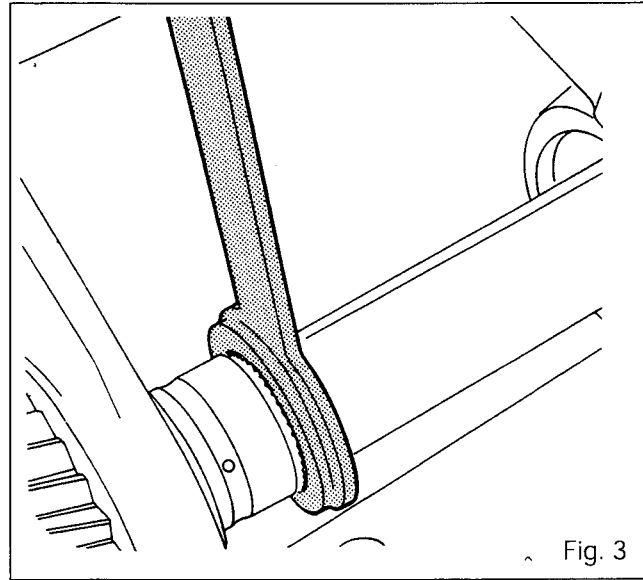
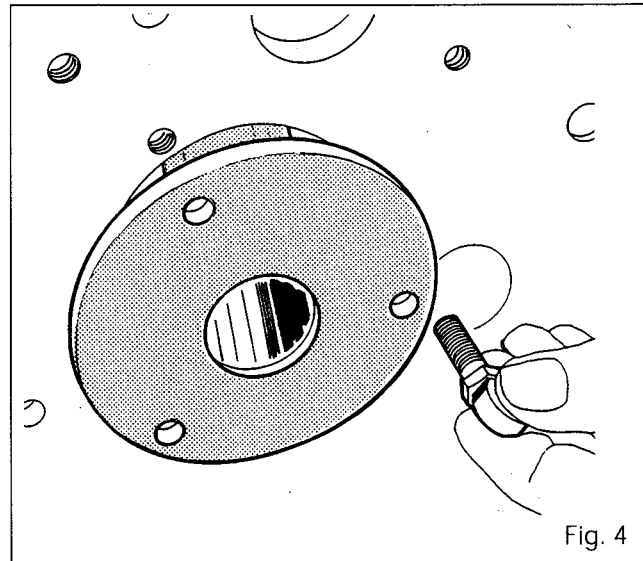
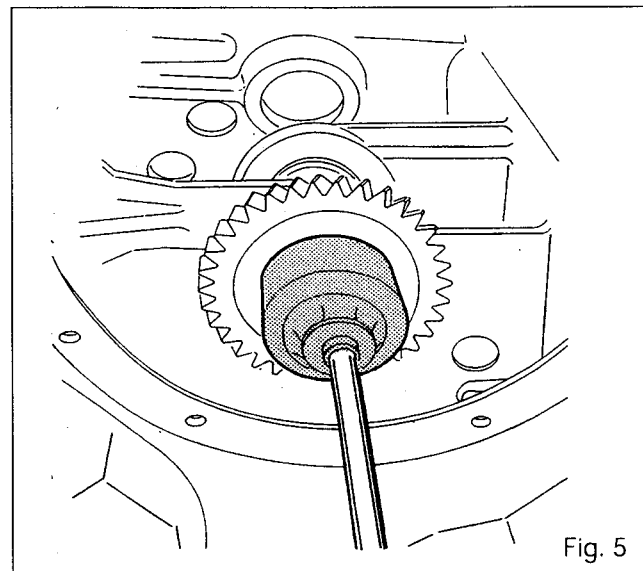

Fig. 3
Fig. 4
Fig. 5
**Note: If work is to be carried out on the input gear (67) only, the 1st - 2nd synchromesh and gear assembly must be held in place with a screwdriver in order to avoid moving the washer with flats (77).**
7. Remove the circlip (26).
8. Remove the 3rd and 4th gear synchromesh (23). Mark the direction of fitting.
9. Position the retaining tool 3378082M1 (Fig. 3) and the locally manufactured holding sleeve for the mainshaft (69) (Fig. 4). (See part D).
10. Remove the oil feed pipe (71) and spring (72).
11. Unlock the nut (68) and loosen it using socket 3378010M1 (Fig. 5).
12. Remove the input gear (67) and cone (1).
13. Remove the washers (6) and the shims (3).
14. Remove the tool (see above) and the sleeve (Figures 3 and 4).
16. Remove the 1st - 2nd gear assembly and synchromesh (11) with bush (8). Withdraw the cups (16) and (2).
17. If necessary, remove the washer with flats (77), extract cone (1) (17) and remove the retaining ring (70).
27. Fit the retaining tool and the locally manufactured holding sleeve (Figures 3 and 4).
28. Fit the shims (3), increased in thickness in procedure 23, between the washers (6).
29. Fit the cone (1) onto the gear (67), (if it was removed).
30. Fit the gear (67) onto the shaft (69).
31. Fit the nut (68) using socket 3378010M1. Tighten to a torque of between 130 and 170 Nm (Fig. 5).
32. Shim the shaft. Remove tool and the sleeve (Figures 3 and 4).
38. Fit the retaining tool and the holding sleeve (Figures 3 and 4).
39. Unlock nut (68). Remove the gear (67).
40. Fit the shims (3) selected during procedure 37 between the two washers (6).